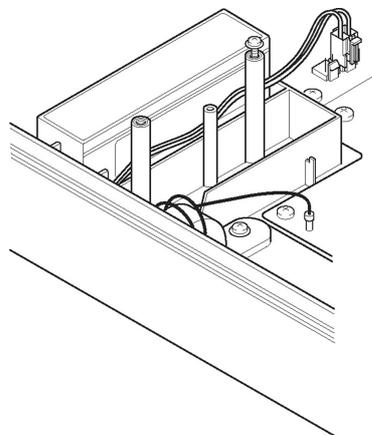

**Figure 2-5: Securing the KSU to the Wall Mount Template**
- Using the other two provided screws, secure the KSU to the wall mount template by screwing the lower two openings located in the KSU base. (Refer to *Figure 2-5:: Securing the KSU to the Wall Mount Template, Pg 28.*)